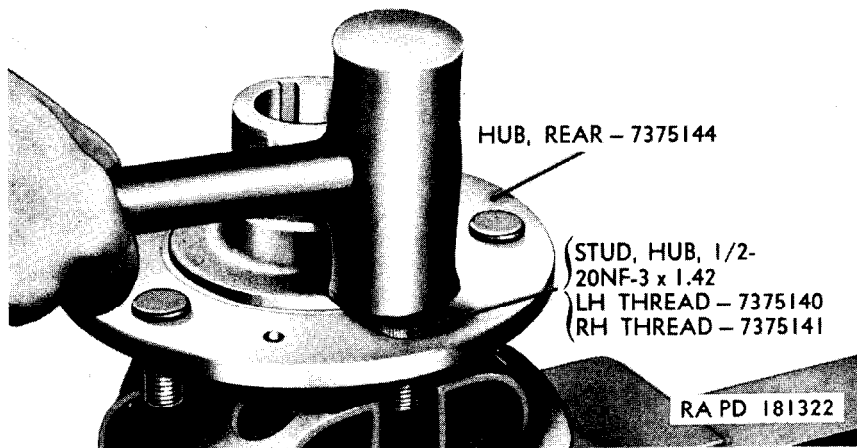

Figure 186. Installing rear wheel hub stud.
a. Hub Studs. If hub studs were removed from rear hub, drive new $\frac{1}{2}$ -20NF-3 x 1.42 hub studs into place in hub (fig. 186).